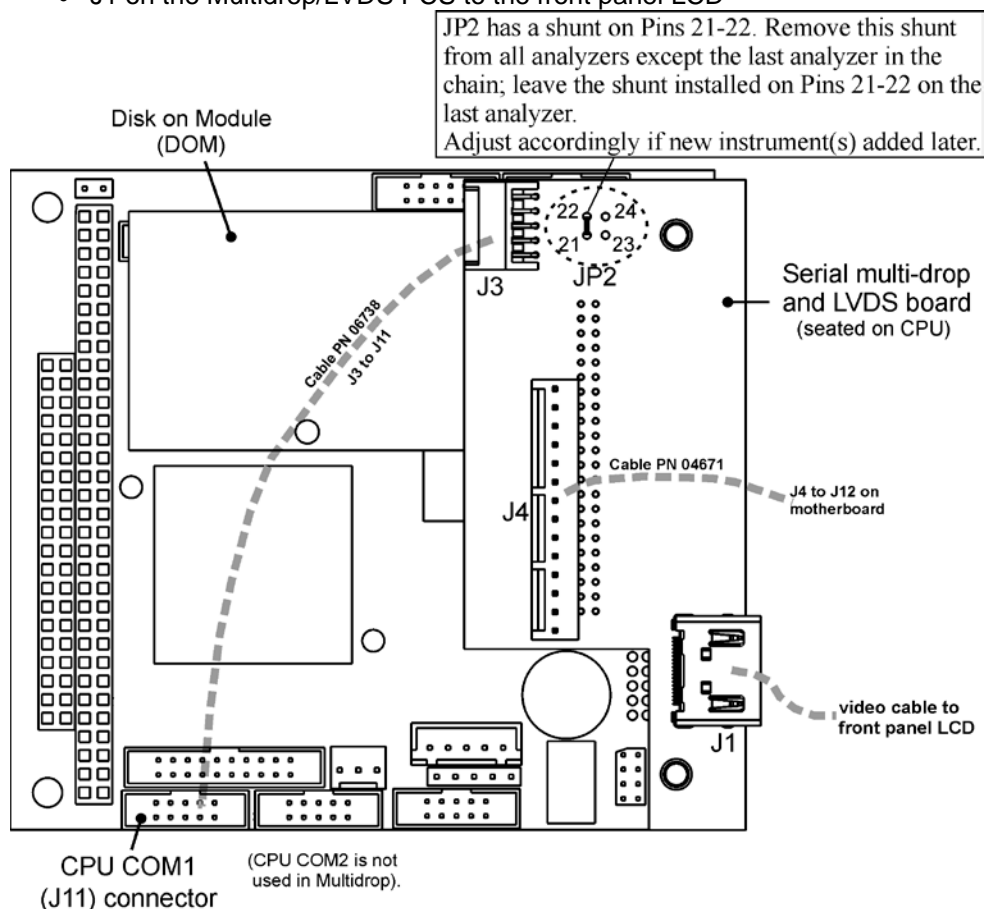

Figure 3-13: Jumper and Cables for Multidrop Mode
In each instrument with the Multidrop option there is a shunt that jumpers two pins on the serial Multidrop and LVDS printed circuit assembly (PCA), as shown in Figure 3-13. This shunt must be removed from all instruments except that designated as last in the multidrop chain, which must remain terminated. This requires powering off and opening each instrument and making the following adjustments:
2. On the Multidrop/LVDS PCA's JP2 connector, remove the shunt that jumpers Pins 21 ↔ 22 as indicated in Figure 3-13. (Do this for all but the last instrument in the chain where the shunt should remain at Pins 21 ↔ 22).
3. Check that the following cable connections are made in *all* instruments (again refer to Figure 3-13):